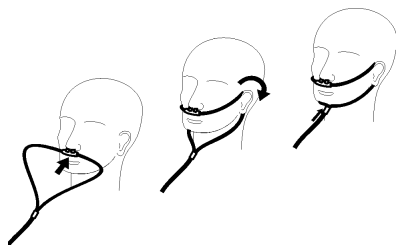

Figure 6
4. Place the nasal cannula onto the patient as shown in Figure 6.